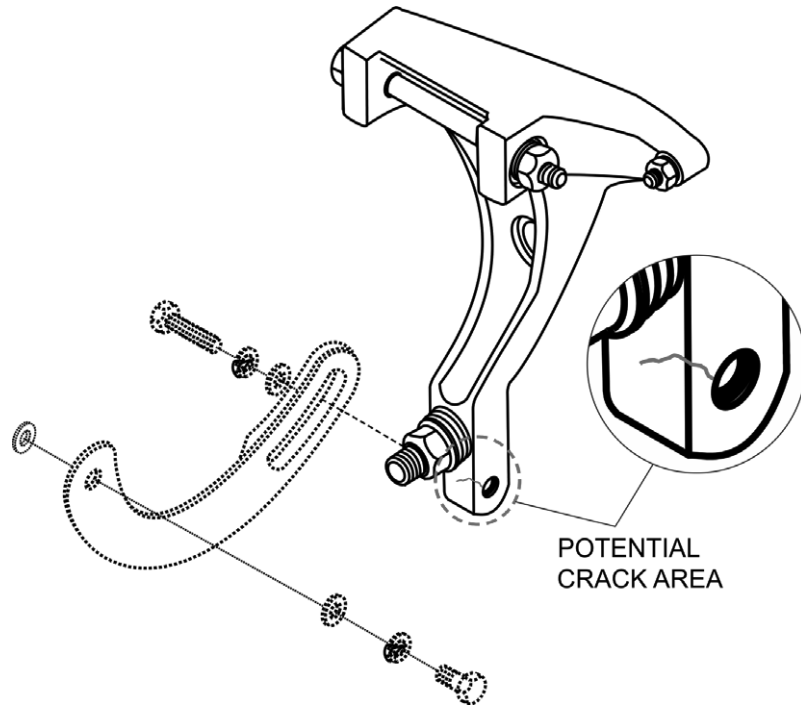

Figure 1. Bracket Assembly Inspection Area
3. Perform a visual inspection using a minimum 10x magnifier and bright light source on the cast aluminum bracket to verify the area surrounding the mounting boss and helical coil insert is not cracked (see Figure 1, "Bracket Assembly Inspection Area," on page 2).